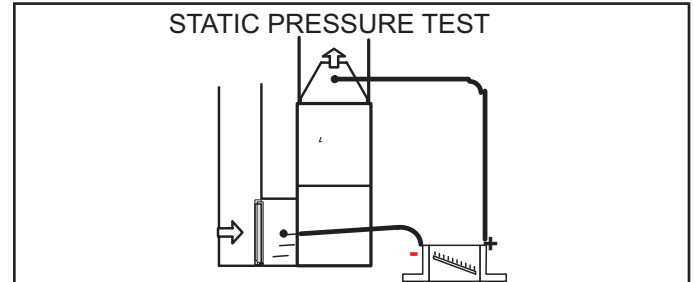

FIGURE 53
- 1 - Tap locations shown in FIGURE 53.